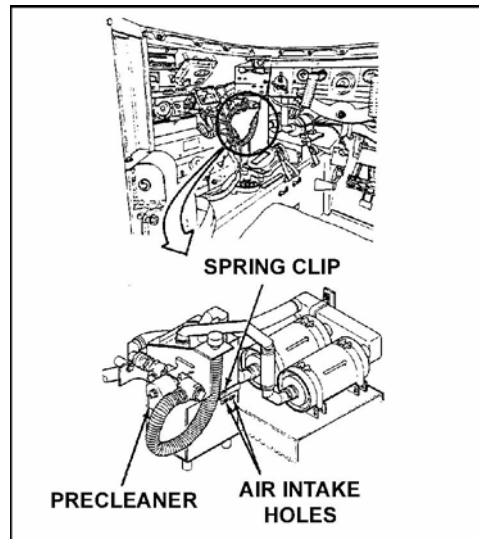

Figure 2. NBC system.
2. The driver activates the NBC system (Figure 2).